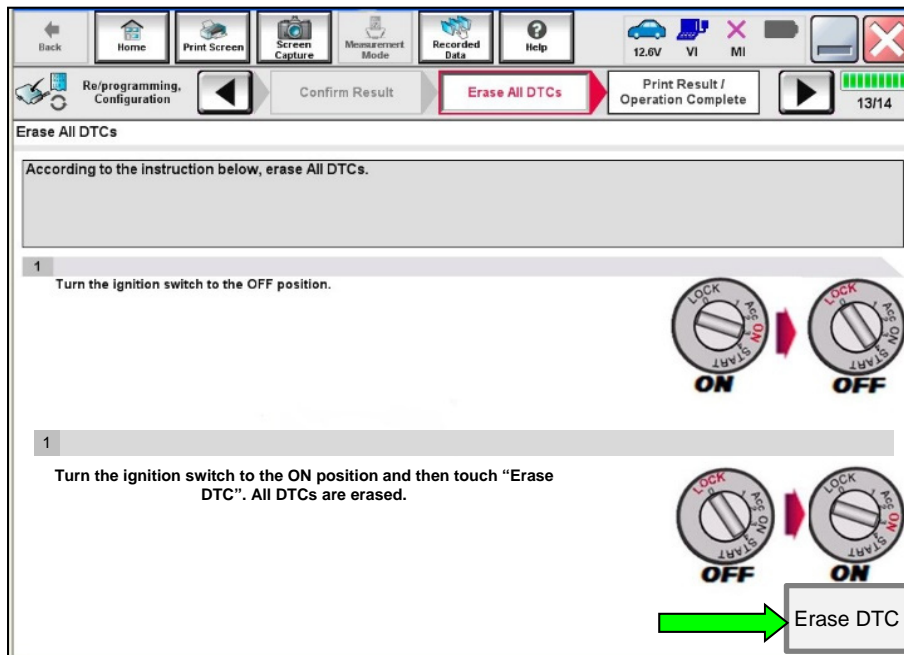

Figure 21
- d. If the screen in Figure 21 displays, select **Erase DTC**.